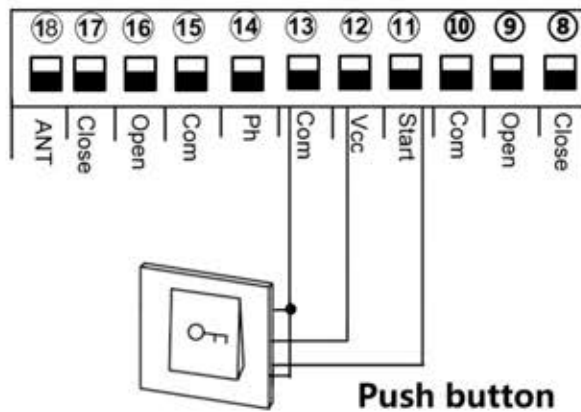

Fig 13
6.6. Connect to start terminal. Fig 13